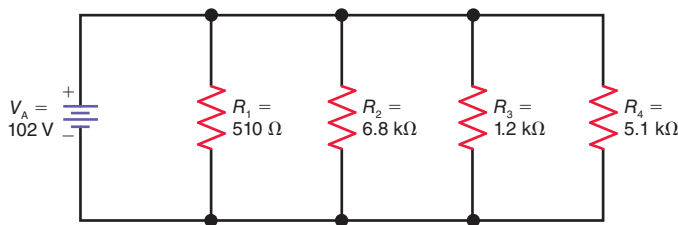

Figure 6-18
- 6.8 In Fig. 6-18, solve for the branch currents I_1 , I_2 , I_3 , and I_4 .
- 6.11 In Fig. 6-18, solve for the total current, I_T .
- 6.20 In Fig. 6-18, solve for R_{EQ} .
6.32 In Fig. 6-18, solve for P_1 , P_2 , P_3 , P_4 , and P_T .